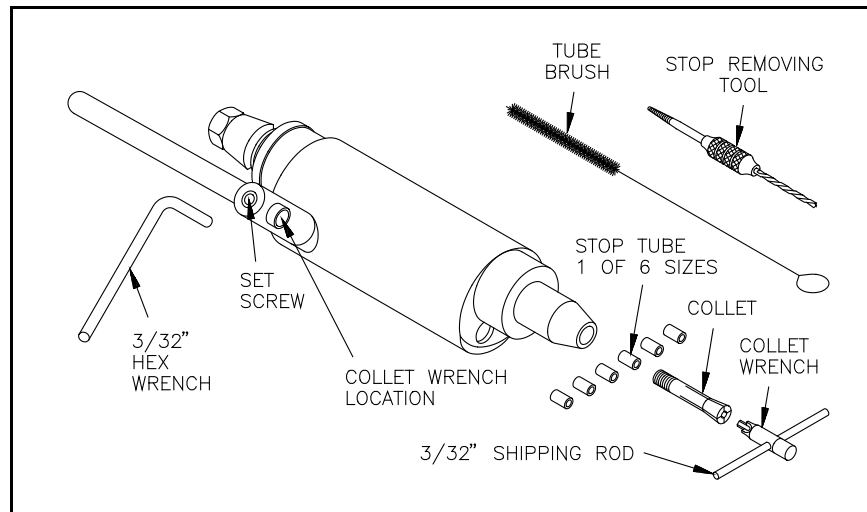

Figure 3.
- 6.2.2 Use a 3/32" hex wrench to loosen the set screw that holds the handle and remove the collet wrench. See Figure 3.
- 6.2.6 To remove the small brass stop tube behind the collet, first clean out any packed dirt with the drill end of the stop removing tool provided in the accessory kit (see figure 3.) or use a #41 drill. Remove the stop tube with the threaded end of the stop removing tool or use a size #1 screw extractor (Easyout).